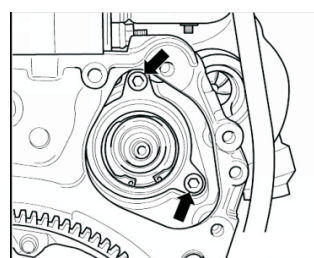

FIG. 5
- 9 Loosen the water pump bolts and disassemble the water pump with the extractor [FIG. 5 and 6].